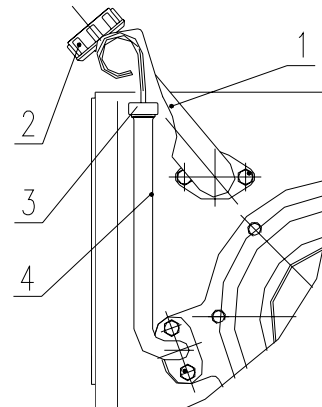

Figure 4-18 Transmission System Maintenance
Remove the oil dipstick (3), which is located at the right-back side of the transmission box (as shown in Figure 4-18). Wipe it, and then reinsert the oil dipstick. If the oil level does not reach the lower scale mark of the oil dipstick when pulled back out, transmission oil should be added so that the oil level is located between the upper and lower scale marks of the dipstick. A new measurement should be taken 5 minutes after the oil is added. To replace the lubricating oil, remove the oil drain plug from the bottom of the transmission box to drain out the dirty oil into a drip pan. Then, tighten the oil drain plug and add new oil.